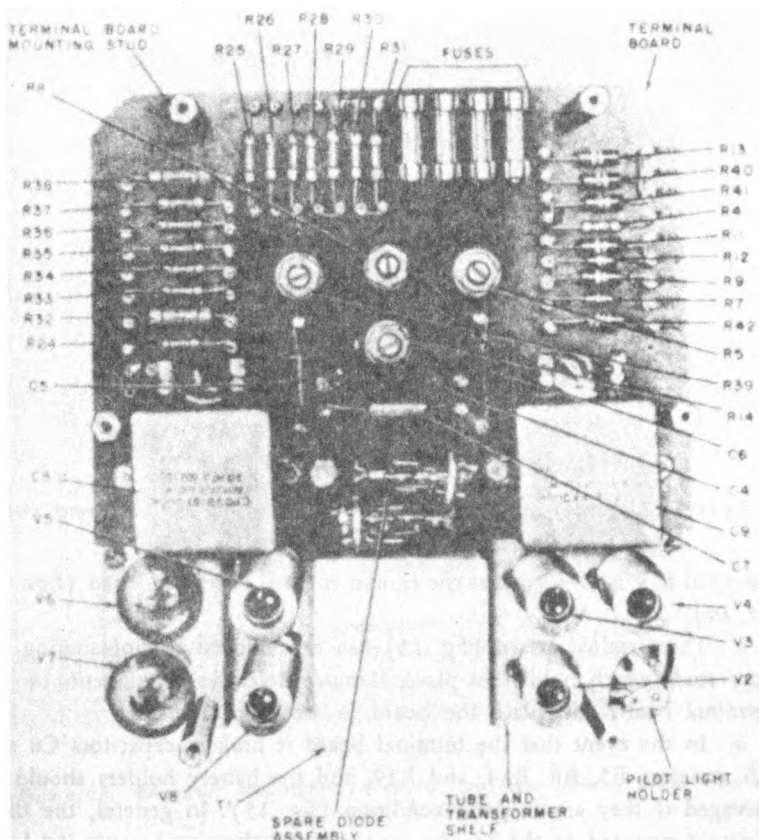

Figure 13. Electronic Multimeter TS-505/U, rear view.
salvaged if it is decided that the equipment will not be repaired (figs. 13, 14, and 15).
a. The terminal board (fig. 13) can be removed by unfastening the four studs which hold it in place. Remove defective components on the terminal board and place the board in stock for re-use.